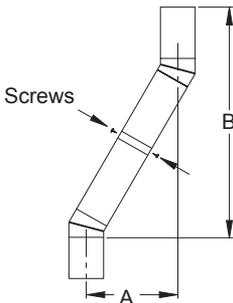

Figure 9 - Elbow Offset
When connecting chimney directly to the fireplace, the inner flue pipe section must be installed first with the lanced side up. The outer pipe section can then be installed over the flue pipe section with the hemmed end up. Press down on each pipe section until the lances securely engage the hem on the fireplace starter. The wire will assure the proper spacing between the inner and outer pipe sections. Continue to assemble chimney sections as outlined, making sure that both the inner and outer pipe sections are locked together. When installing double wall snap-lock chimney together, it is important to assure the joint between the chimney sections is locked. Check by pulling chimney upward after locking. The chimney will not come apart if properly locked. It is not necessary to add screws to keep the chimney together (exception - see Figure 9, page 8).
4. All pipe connections between offset and return must be secured with two screws on outer pipe only (see Figure 9, page 8). Do not penetrate inner stainless.